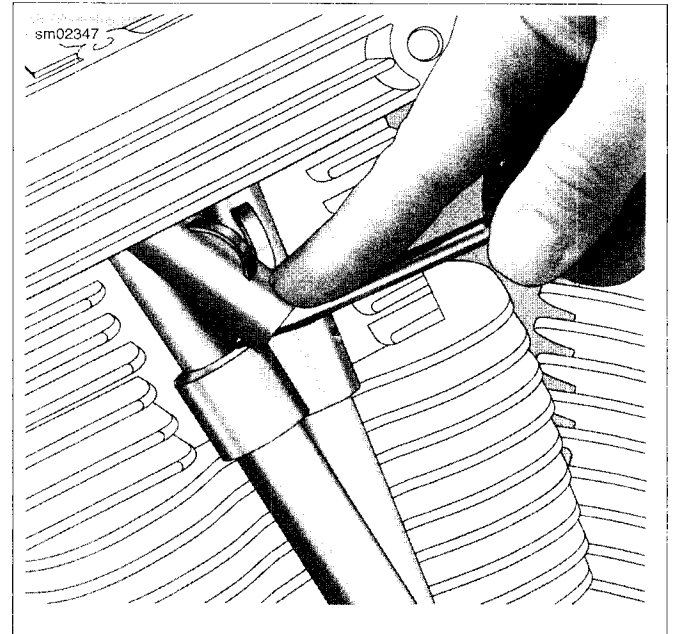

Figure 3-47. Install Spring Cap Retainers
- d. See Figure 3-47. While simultaneously depressing spring cap with tip of screwdriver, use forefinger to slide bottom edge of spring cap retainer down shaft towards tip of screwdriver blade. As spring cap reaches its full length of travel, spring cap retainer should be in approximate position against upper push rod cover.